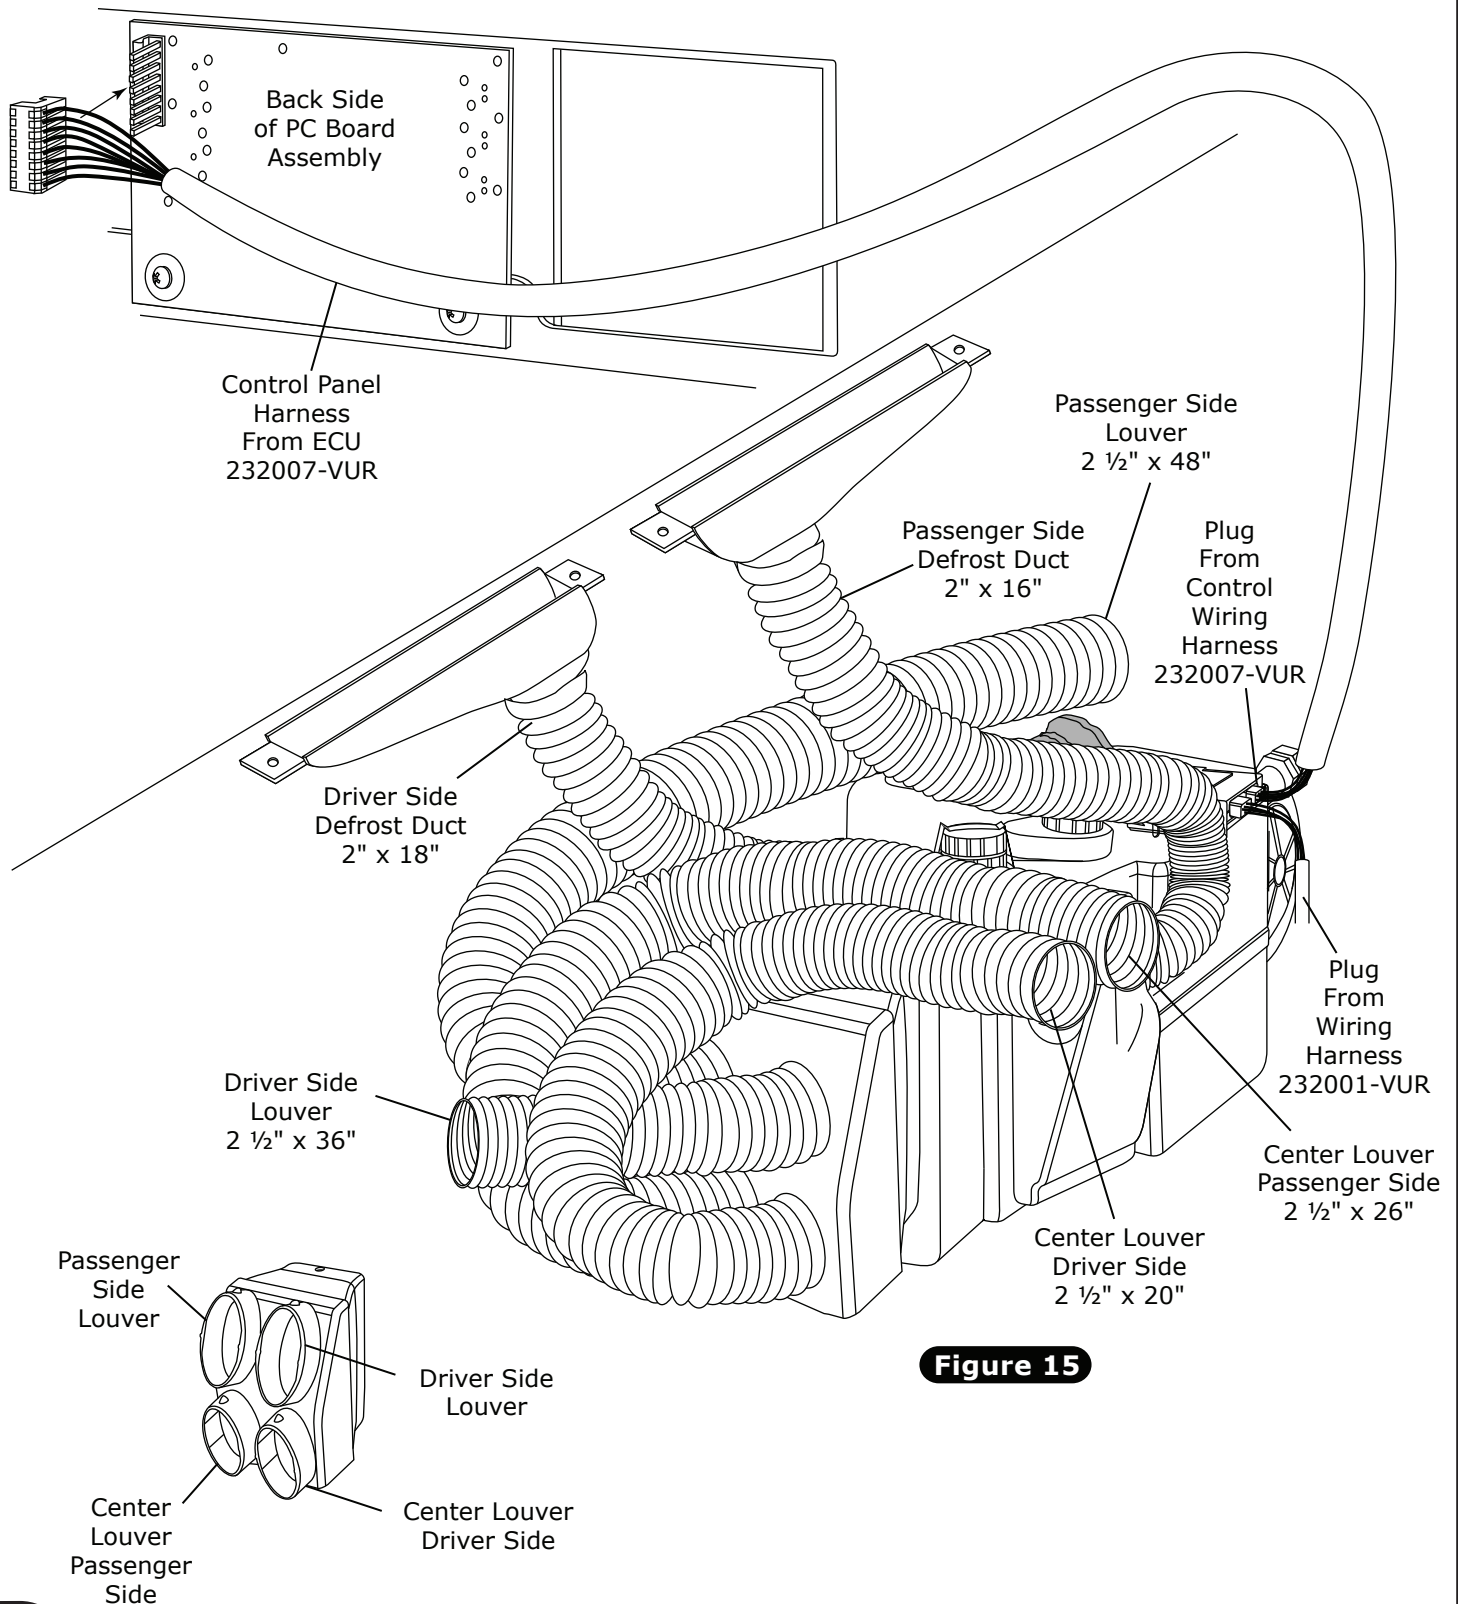

Figure 15
1. Install duct hoses as shown in Figure 15, Page 17.
2. Plug the control panel harness into the ECU module on the sub case as shown. See Figure 15, Page 17.
3. Route the control panel harness under the center dash assembly and connect the control harness to the PC board assembly on the back side of the control panel as shown in Figure 15, Page 17.